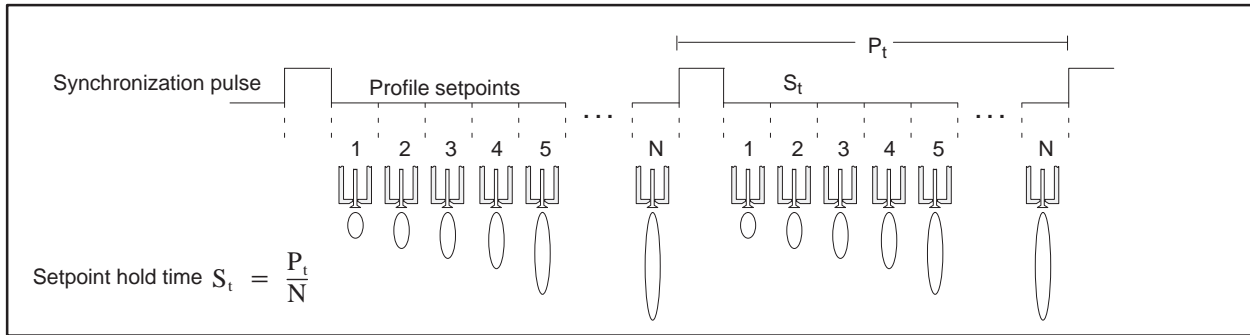

Figure 4-1 Relationship of Synchronization Pulse to Profile Setpoints
The time that the module holds at each setpoint (S_t) is determined by dividing P_t by the number of setpoints (N). The relationship between the profile setpoints and the synchronization pulse is shown in Figure 4-1.